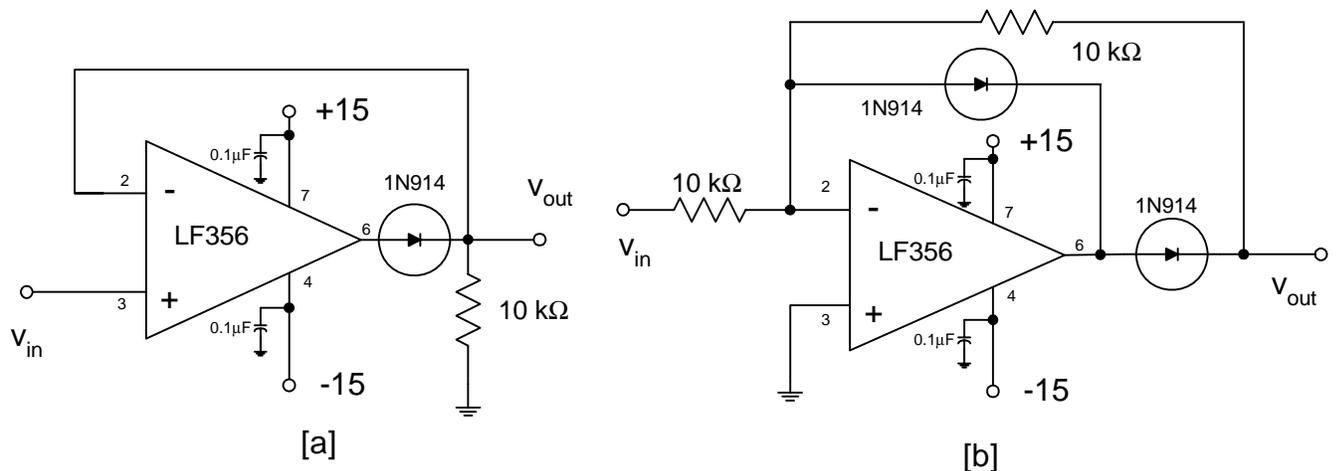

Figure 4: Circuits for experiment 5.
1. Construct the circuit of Figure 4[a]. With the function generator set to produce a 5 V p-p sinusoid at 60 Hz, observe and sketch the output waveform. Notice that it is a half-wave rectified version of the input voltage but that you do not see the 0.6 V drop that you would expect to see if you had made a simple diode rectifier. This circuit is known as a precision rectifier. [The diode is enclosed in the feedback loop, and thus feedback corrects for the diode forward voltage drop "error".]
Figure 4[b] is a circuit for an “improved” precision rectifier. Construct this circuit and verify that it indeed provides improved performance over the circuit of Figure 4[a]. Increase the input frequency until you observe that the performance of this rectifier circuit begins to deteriorate.